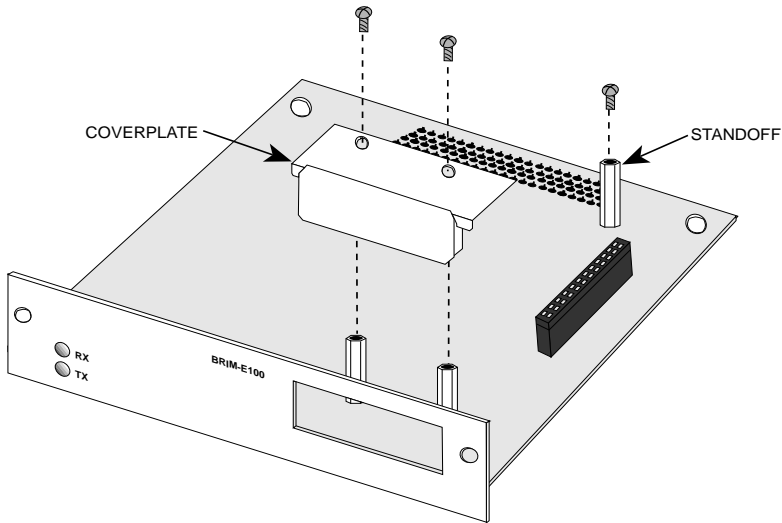

Figure 3-1 Removing the Coverplate on the BRIM-E100
2. Remove the screws securing the Fast Ethernet Interface Module coverplate to the standoffs on the BRIM-E100 and remove the coverplate from the BRIM-E100 (see Figure 3-1).